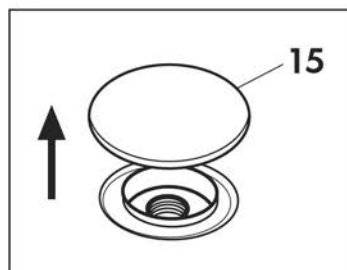

Fig. 4
Pour water, preferably demineralised water, or non-foamy detergents into the appropriate tank after lifting the cap (15) **(Fig. 4)**
Pour water or non-foamy detergents into the appropriate tank after lifting the cap (15) **(Fig. 4)**